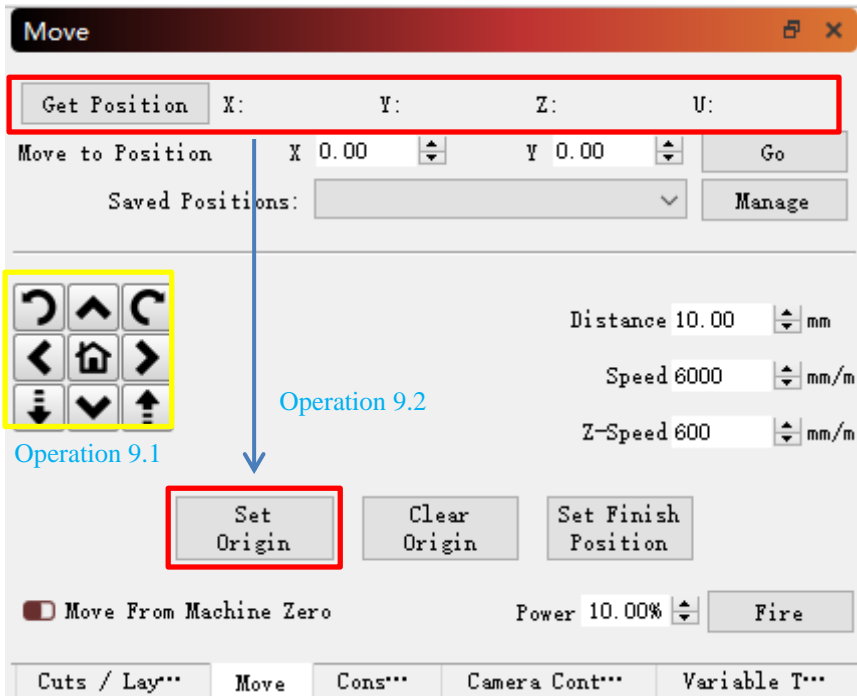

Figure 9.1/2
9.2. Obtain the position coordinate point, and then set the obtained position coordinate point as the origin (Figure 9.1/2)